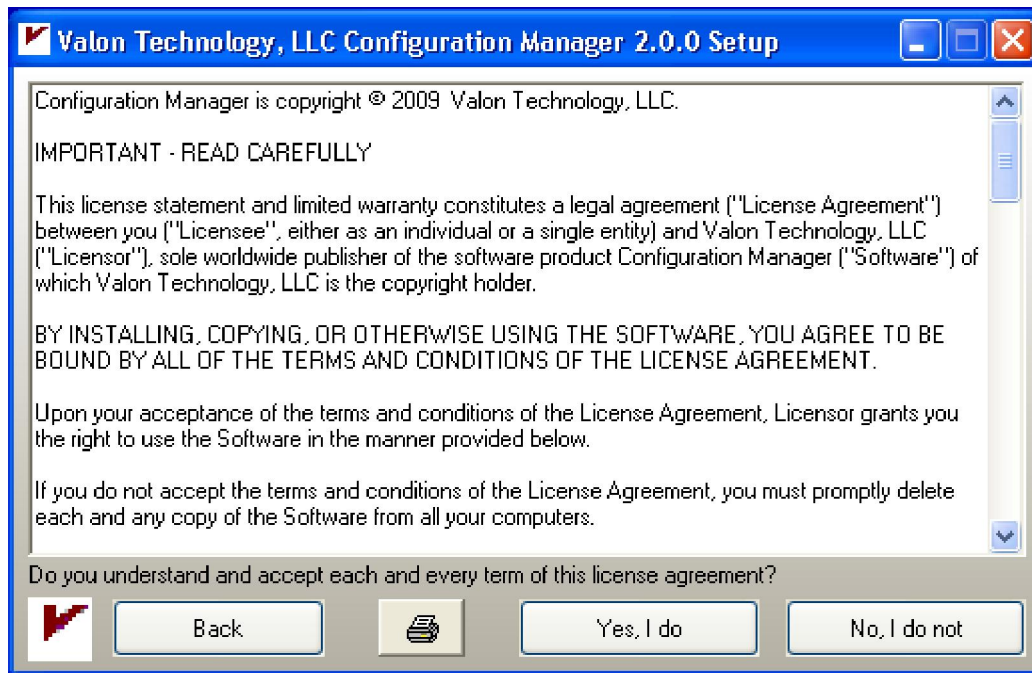

Figure 2-2 Installation License Window
- e. Once you have selected the installation option, **Installation License Window**, as shown in Figure 2-2 below, will be displayed.